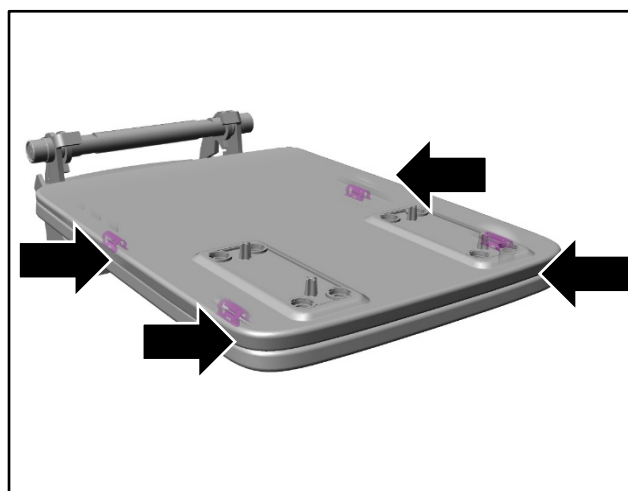

Figure 18
12. Use an applicable trim tool to separate the two pads at the front and sides (refer to Figure 18).